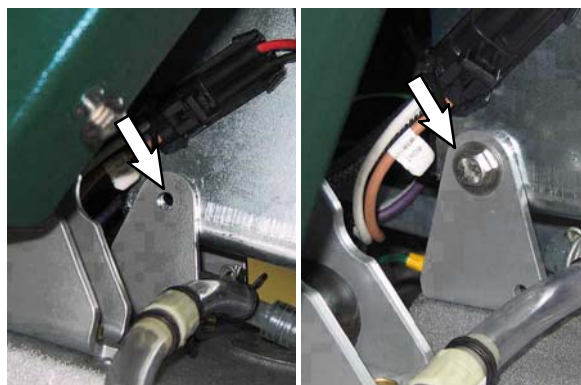

Fig. 9
9. Align and connect the actuator bracket to the scrub head using the hardware supplied with kit (Figure 9).